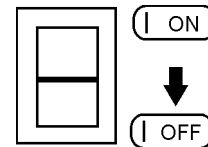

Figure 19. Operation Switch (OFF)
- Place the **operation switch or engine ON/OFF switch** (Figures 19 or 20) in the **"OFF"** position.